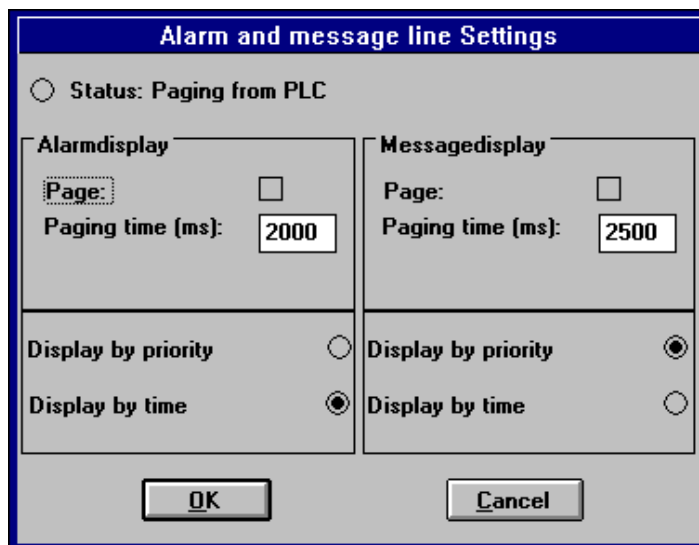

Fig. 8-4 Configure alarm/message line
- The alarm and message line configuration. The following dialog box appears when you select menu item Line settings (refer to Fig. 8-4).